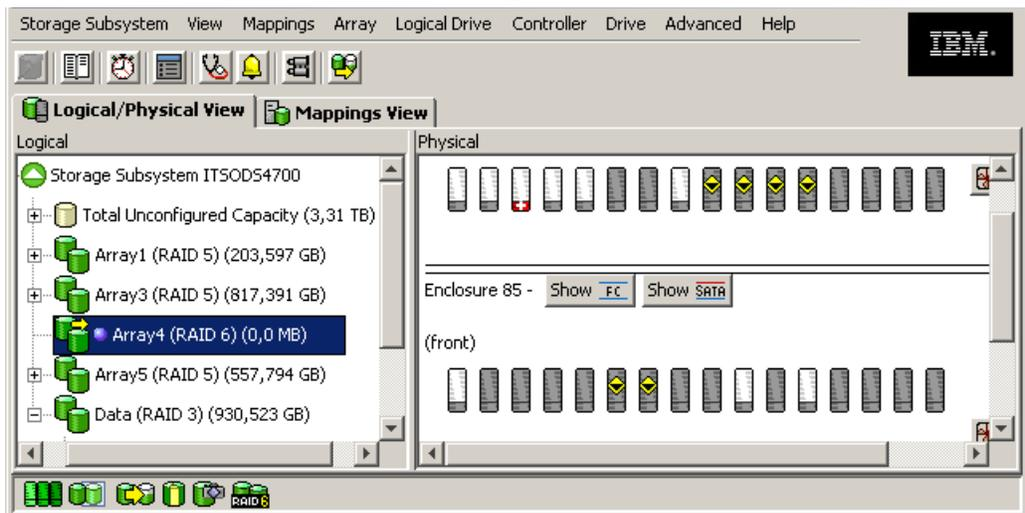

Figure 12-39 Export array: Disks offline
5. Before you start removing the disks, check also the Storage Manager window to make sure that all the disks and the array are in an offline status, as shown in Figure 12-39.